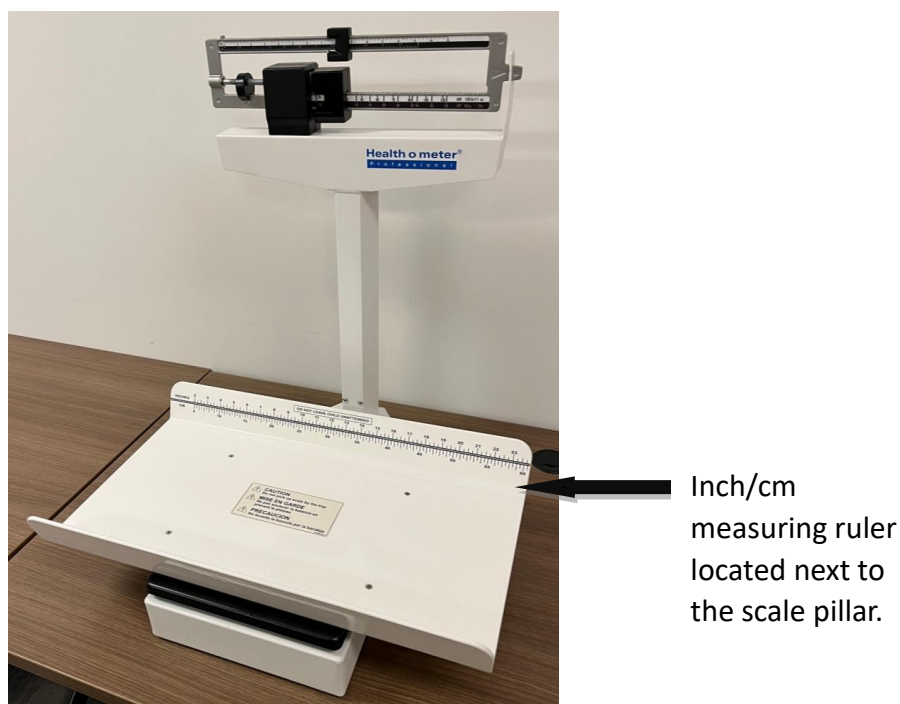

Figure 3-2. Weigh Platter Attached to the Scale Base
1. Position the weigh platter on top of the scale platform with the inch/cm marks located next to the pillar as shown in Figure 3-2.